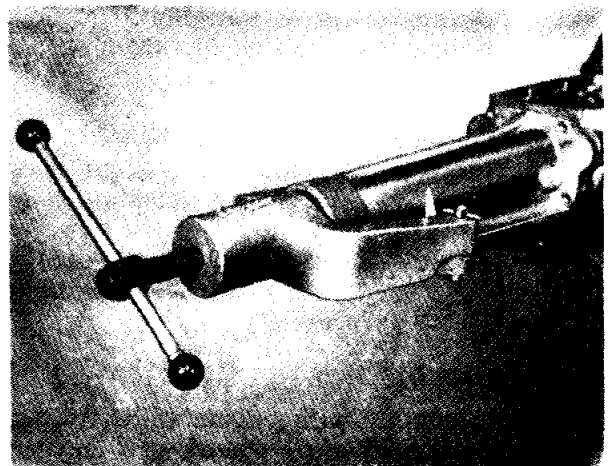

Fig. 6 Showing the removal of Gearbox Extension with Churchill Tool No. 20S. 63.
- (g) Remove gearbox extension and paper joint after the withdrawal of six securing setscrews and spring washers Fig. 6. The oil seal and ball race will remain in position in the housing but can easily be tapped out with a suitable drift.